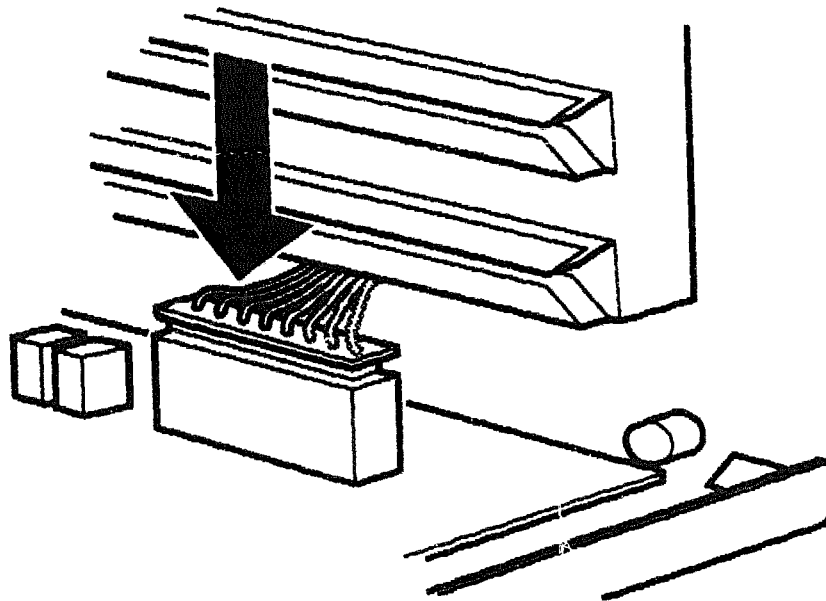

Figure 3-45 - Joining the Ribbon Cable to the Main Board
4. Connect the small ribbon cable to the main board (Figure 3-45).